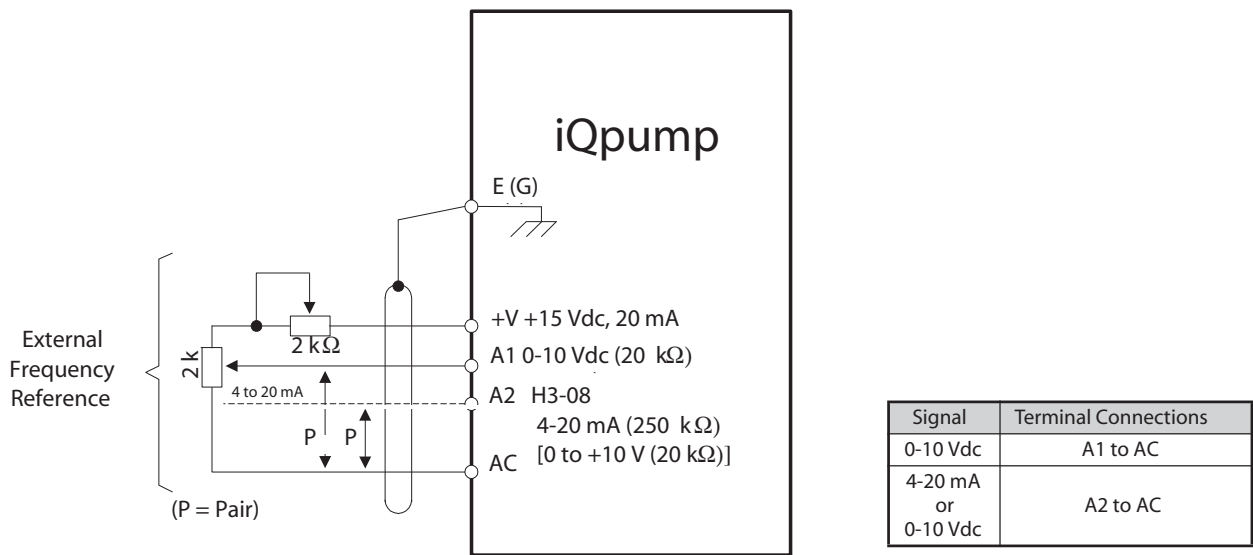

Figure 2.3 Analog Input Terminal Configuration
When setting speed commands (frequency references) from an external speed potentiometer (and not from the Digital Operator), use shielded twisted-pair wires and ground the shield to terminal E (G), as shown in Figure 2.3. Terminal numbers and wire sizes are shown in Table 2.7.